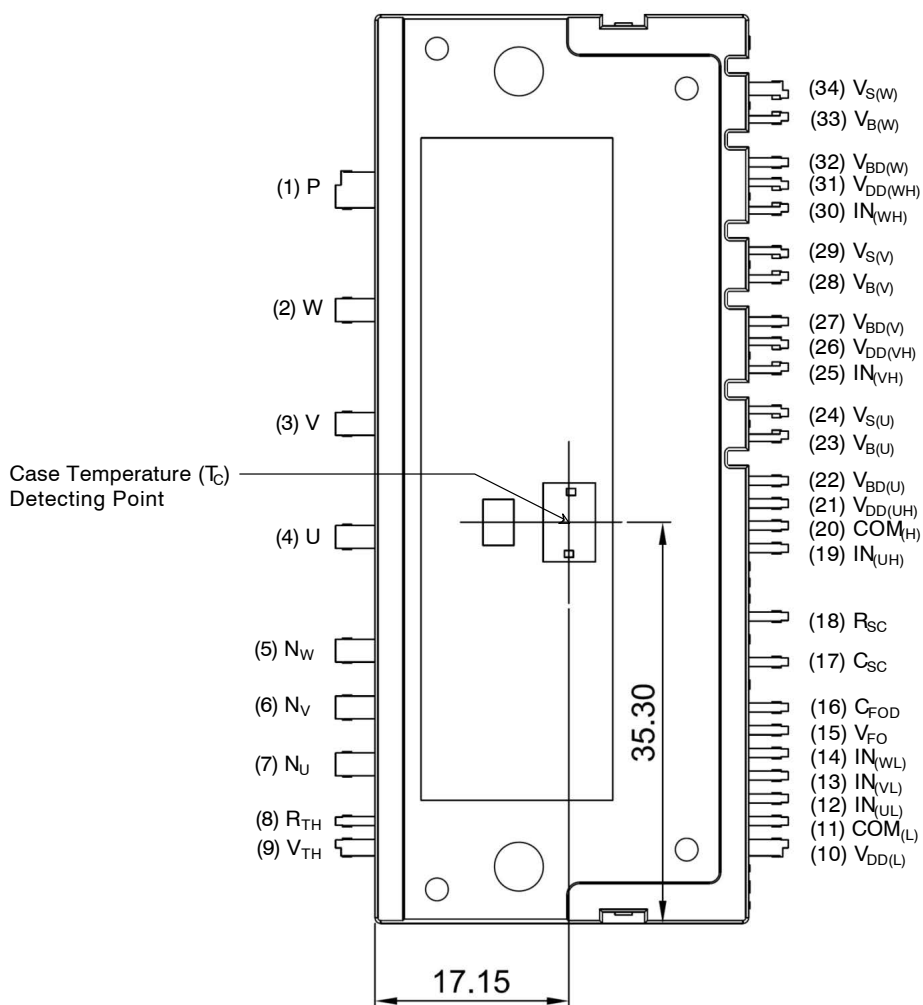

Figure 1. Top View
- 1200 V–35 A IGBT inverter for three-phase DC/AC power conversion (Refer to Figure 1)
4. For the measurement point of case temperature ( $T_C$ ), please refer to Figure 1. DBC discoloration and Picker Circle Printing allowed, please refer to application note AN-9190 (Impact of DBC Oxidation on SPM® Module Performance).